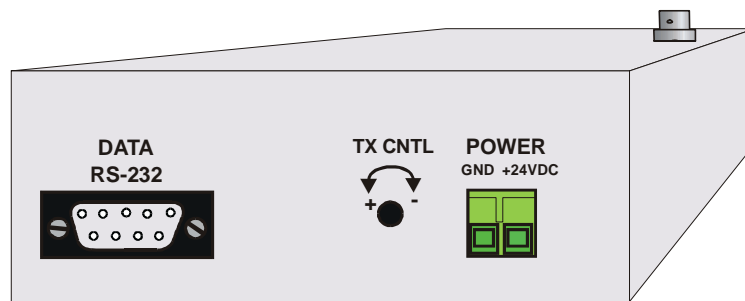

Figure 11 Back of the Activator
- Step 2:** Plug the power terminal block into the back of the Activator (Figure 11).